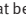

Fig. 12 Fasten the seat belt on the centre seat in the second row of seats.
- Use latch plate of the belt ⇒ fig. 12  to pull the seat belt down. Do **not** twist the seat belt when doing so ⇒ .